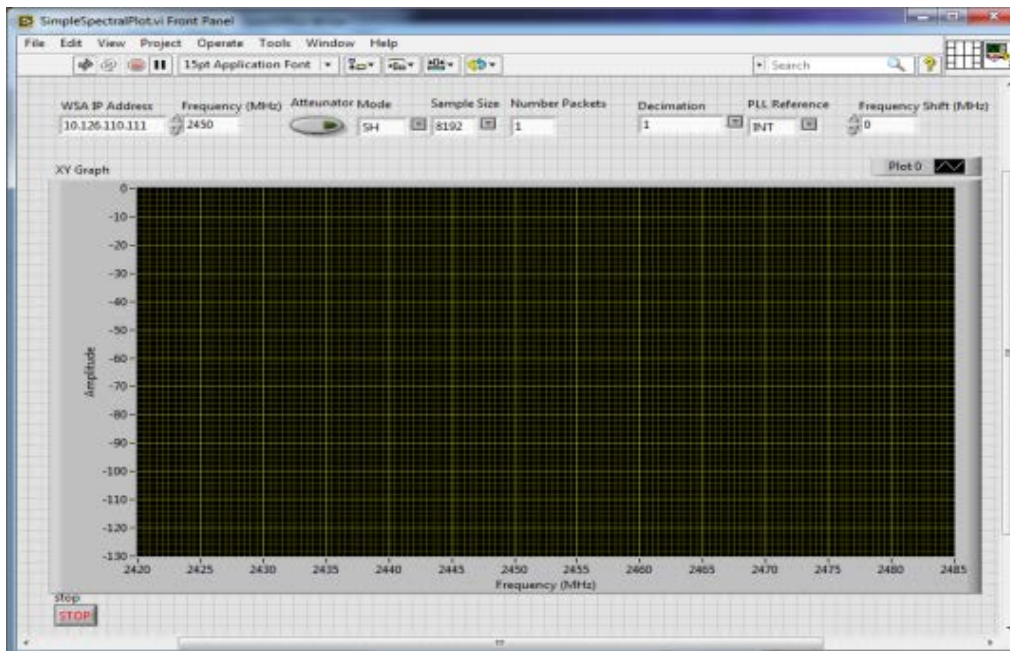
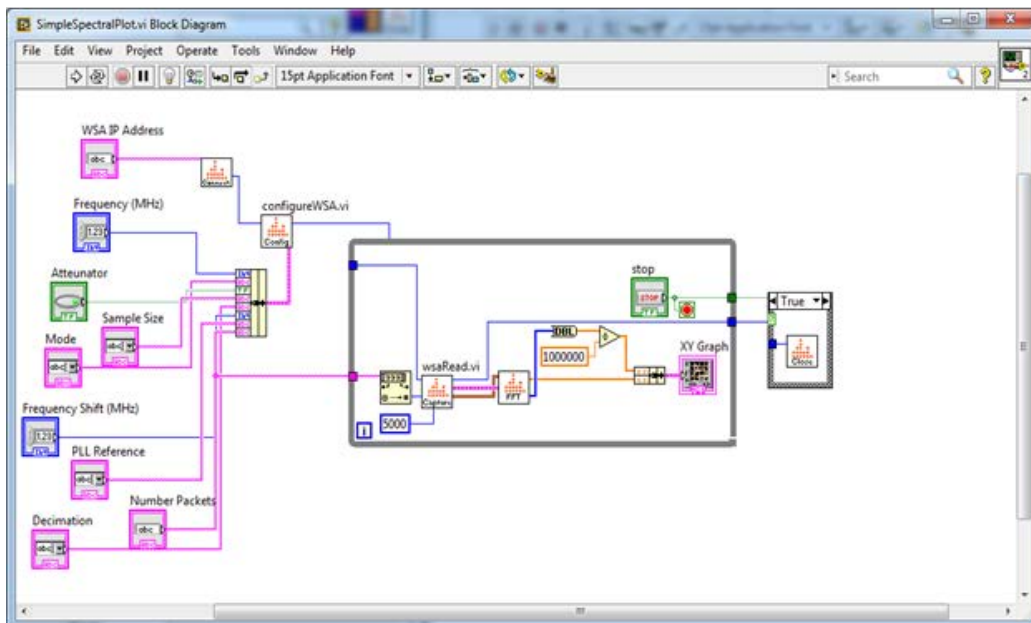

Figure 1: SimpleSpectralPlot.vi front panel
Figure 2: SimpleSpectralPlot.vi block diagram
2. Launching the *SimpleSpectralPlot.vi* will launch the front panel (see figure 1). Type 'Ctrl+t' to display the block diagram beside the front panel (see figure 2).